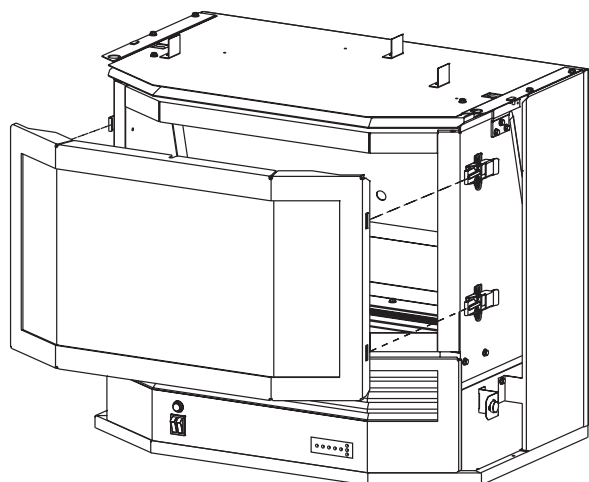

Figure 46
1. Remove front door assembly. See Figure 46.